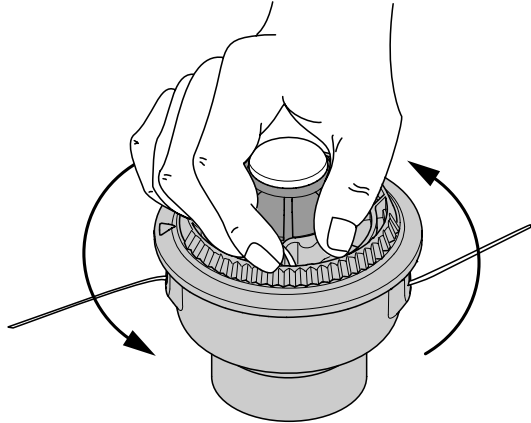

Fig. 12
8. Hold the outer spool. Wind the inner reel counterclockwise until approximately four (4) inches (102 mm) of line remain (Fig. 12).